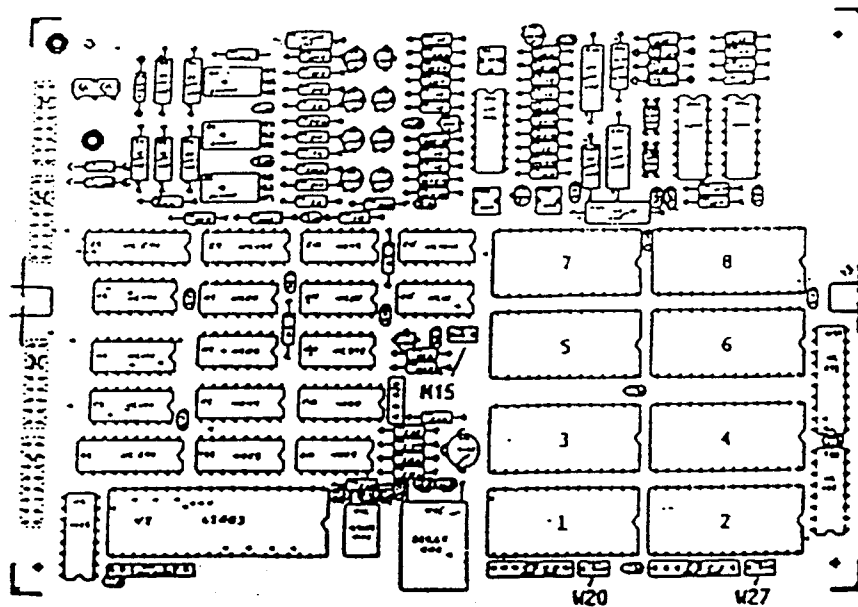

FIGURE I-1. Memory Sockets on CPU Card
2. Lay the micrologger face down on a padded surface. Remove the four Phillips head screws from the corners of the aluminum back plate. Lift the back plate up and away to expose the 21X CPU board. Figure I-1 shows the CPU card; the memory chips are in the lower right hand corner. The locations numbered 1-5 hold RAM chips. Locations 8, 7, and 6 hold PROM chips.
The standard 21X has the maximum memory allowable. In the unlikely event that a RAM chip fails, the 21X can detect the bad chip during its power-up memory check. As a result of this check the 21X displays the status of the memory chips as a sequence of 1s and 0s, each representing a chip with the status of chip 1 on the left and 8 on the right; 0 indicates a bad chip. For example, 11011111 indicates that chip 3 (Figure I-1) is bad.
To replace a RAM chip carefully pry the old chip with a small flat blade screwdriver, start at one end and then loosen the other, alternating until the chip is free. The new chip should be installed with the notched end in the same direction as the other chips, to the right side of the card in Figure I-1. Before pushing the chips into the socket, make certain that all pins are correctly seated. After installing the chip, check for pins that may be bent or not firmly seated in the socket. If there is a bent pin, remove the chip, carefully straighten the pin and reinstall the chip.
The older 21X has jumpers at locations M15, W20, and W27 (Figure I-1). With 8K RAM chips installed, M15 should be jumpered on the right set of pins and W20 and W27 should be jumpered on the left set of pins.
PROMs are installed at locations 6, 7, and 8 in Figure I-1. The procedure for changing a PROM is the same as for a RAM chip, carefully pry out the old chip and insert the new one, being certain that the notch on the chip is toward the close edge of the card and that all pins are correctly seated in the sockets.